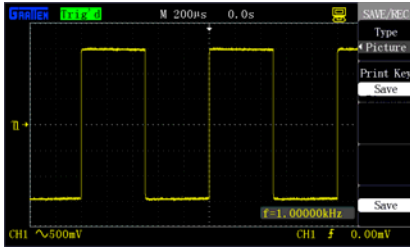

Figure 2-61 Image save
As shown in figure 2-61, waveform images can be saved in the USB flash disc but cannot be recalled by the oscilloscope. The images are in standard BMP format and can be opened by related software in computer.
**"Save":** It can be used for saving the screen image in a special menu (see the menu bar shown in figure 2-61).